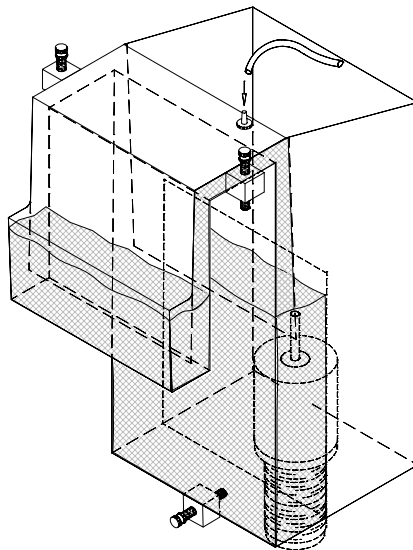

Fig. 3
9. *Plug in the return pump. The flow rate of the return pump should closely match up with the overflow rating of your CS Overflow model. Issues may arise if the return pump flow rate is significantly different than the recommended overflow rating. Keep an eye on the water level in the tank after the pump is plugged in to make sure the overflow starts its siphon. Water should start draining down the overflow.(FIG 3) Look into the side of the overflow box for any air pockets accumulating at the top. At this point, direct your attention to the sump to make sure the return pump is still completely submerged, or that the sump is not overflowing. It may be necessary to add or remove water from the sump at this point. Continue to monitor both the tank and the sump for a few minutes to ensure that the system is working consistently.*